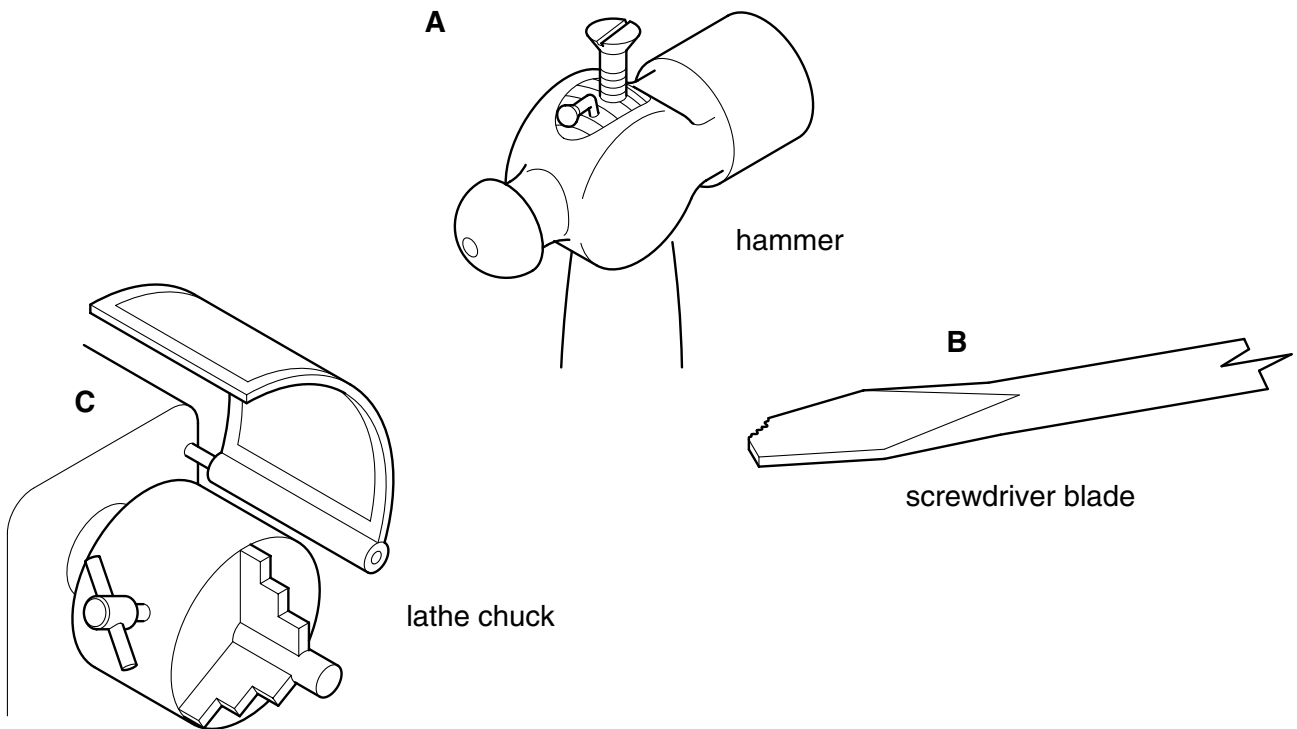

Fig. 6
- (i) Identify a problem with each of the situations given in Fig. 6 and explain how each could be dangerous. [6]